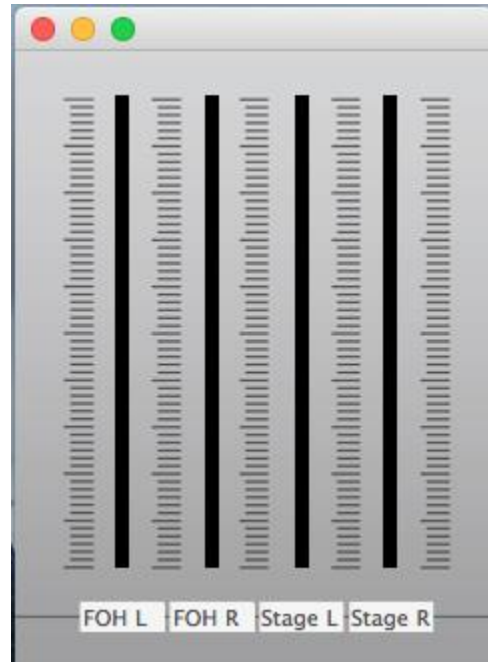

Figure 8: detail of unit panel in locked state.
**Hardware | Lock Unit** Clicking this menu item will lock the unit. When locked, the unit window shows input levels but no controls or other settings, and nothing can be changed, as shown in Figure 8: detail of unit panel in locked state.